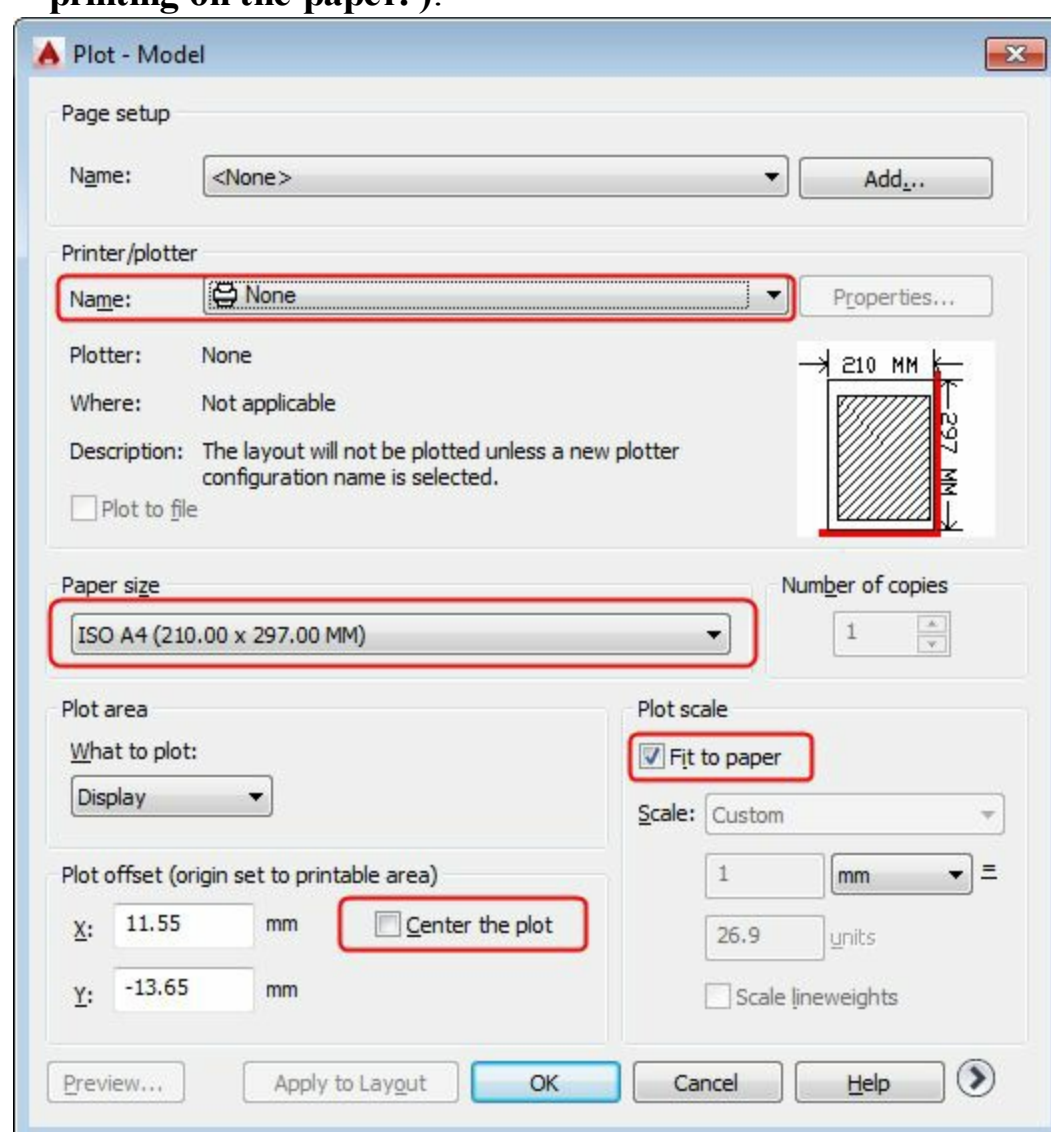

Figure-38. Plot dialog box
- Click on the **Plot** option from the **Print** options in the Application Manager. The **Plot** dialog box will be displayed for Model option; refer to Figure-38. (**Model is the workspace in AutoCAD Electrical in which 3D view of model is displayed. Layout/Paperspace is the workspace where model is displayed in its paper print form. It is advised to shift to Layout/Paperspace before printing on the paper.** )